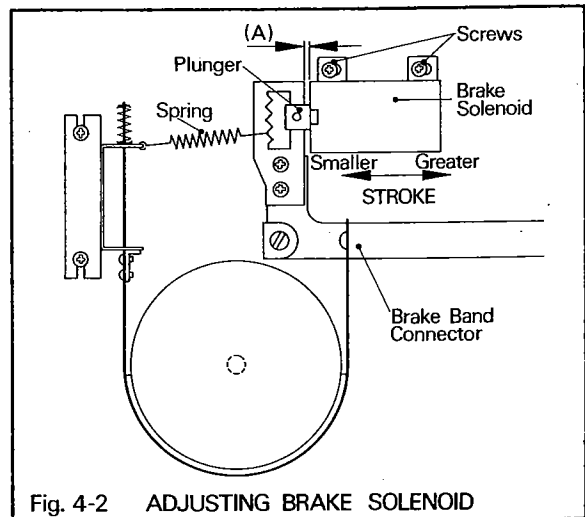

Fig. 4-2 ADJUSTING BRAKE SOLENOID
1. Depress the PLAY BUTTON (46) and the STOP BUTTON (45) repeatedly, and check that the BRAKE SOLENOID is activated and de-activated properly.
2. Mark with a pencil on the BRAKE SOLENOID PLUNGER when the tape transport is in the STOP operation, i.e. when the BRAKE SOLENOID is not activated. Then push the PLAY BUTTON, i.e. activate the BRAKE SOLENOID, and mark again on the BRAKE SOLENOID PLUNGER. Measure the distance between two pencil marks (Indicated (A) in Figure 4-2) with the slider calipers, and check that it is about 1mm. If the measurement is not within a reasonable tolerance from the specified figure, loosen the BRAKE SOLENOID SCREWS and adjust the position of the BRAKE SOLENOID; when it is